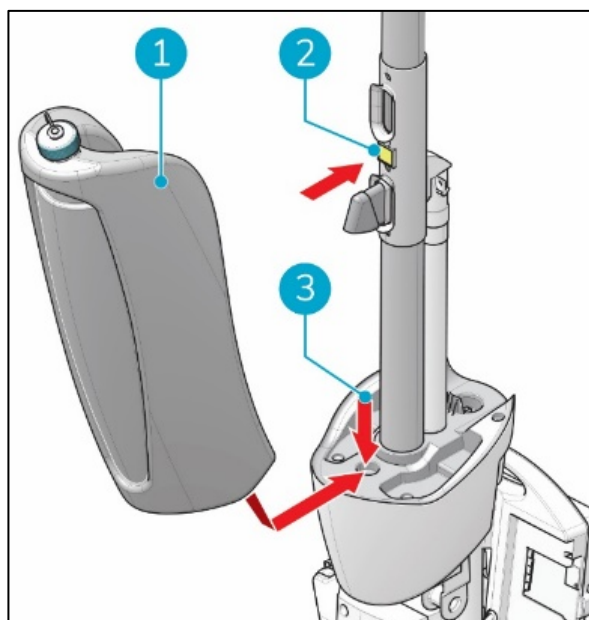

Figure 11
1. Put the bottom of the recovery tank (Figure 11, pos 1 and pos 3) on the front of the i-mop® XL pro.
2. Push the top of the tank into place until you hear a "click" sound, the magnet (Figure 11, pos 2) will lock the recovery tank into place.